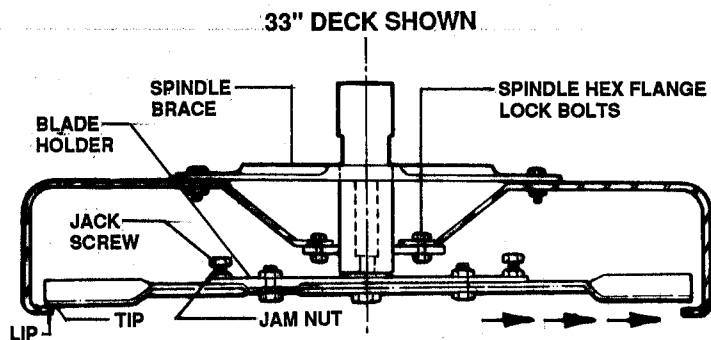

FIGURE 3.6
1. Loosen nuts on the three spindle hex flange lock bolts. See Figure 3.6.